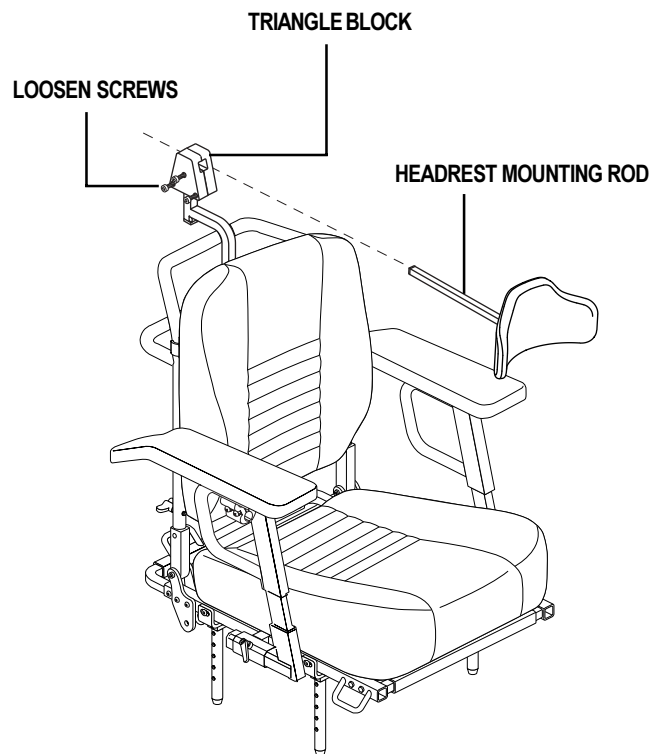

Figure 13b. Mounting the Headrest
7. Loosen the three (3) socket head cap screws in the triangle block at the top of the headrest receiver rod using the 3/16-in. hex key. See figure 13b.
8. Slide the headrest mounting rod through the loosened triangle block to the appropriate length, and then retighten the socket head cap screws. See figure 13b.